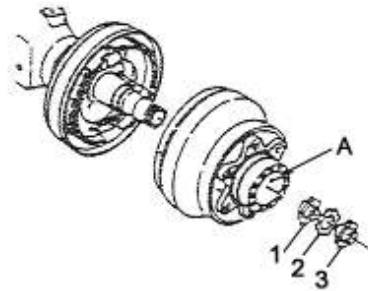

Fig. 2-6 Filling Grease
- (1) Fill 100ml of lubricating grease into the hub and then fit the hub on the shaft (see Fig. 2-6).
- (2) Tighten the adjusting nut with a torque of 9.8N·m and then turn the nut back for 1/2 circle.
- (3) Set the spring balance on the bolt to measure the initial torque of hub. When the torque reaches the specified value, slowly tighten the nut.